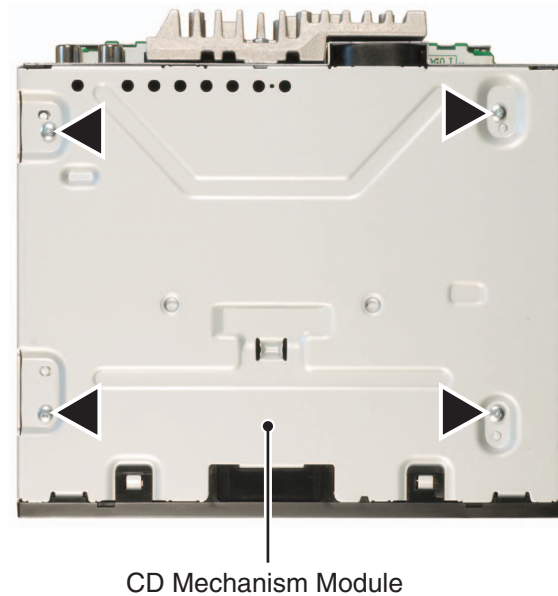

Fig.4
### ● Attention of removing (Fig.4)
5. Lift the PU unit to disengage it from Part B of the chassis (Fig 4), and remove the PU unit.
(Cautions) When re-installing the PU, be sure to first nip the chassis and the PU unit (Fig 4) at the position B. Also, make sure to fully hook the feeding screw biasing spring (Fig 2a). Please follow the service manual for adjustment of the PU unit after the re-installation.